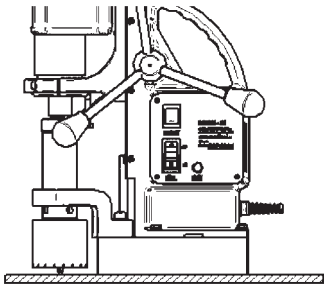

Fig. No. 13
- f) If workpiece under drilling is thin. use an iron plate larger than base as shown in (Fig. No. 13 & 14)